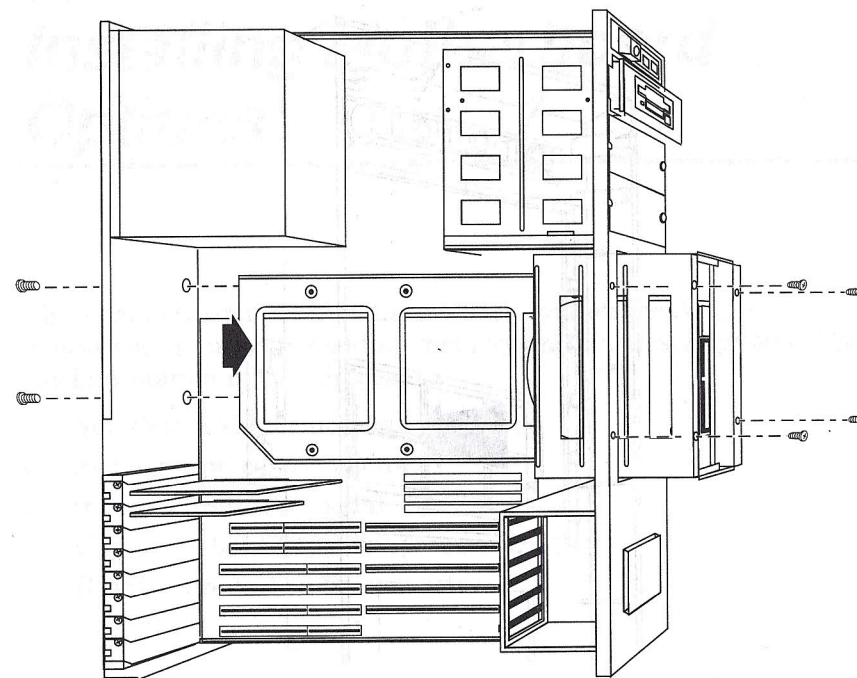

Figure 3-5. Removing the Internal Drive Bay Bracket
5. Remove the screws holding the internal drive bracket to the system case as shown in Figure 3-5.